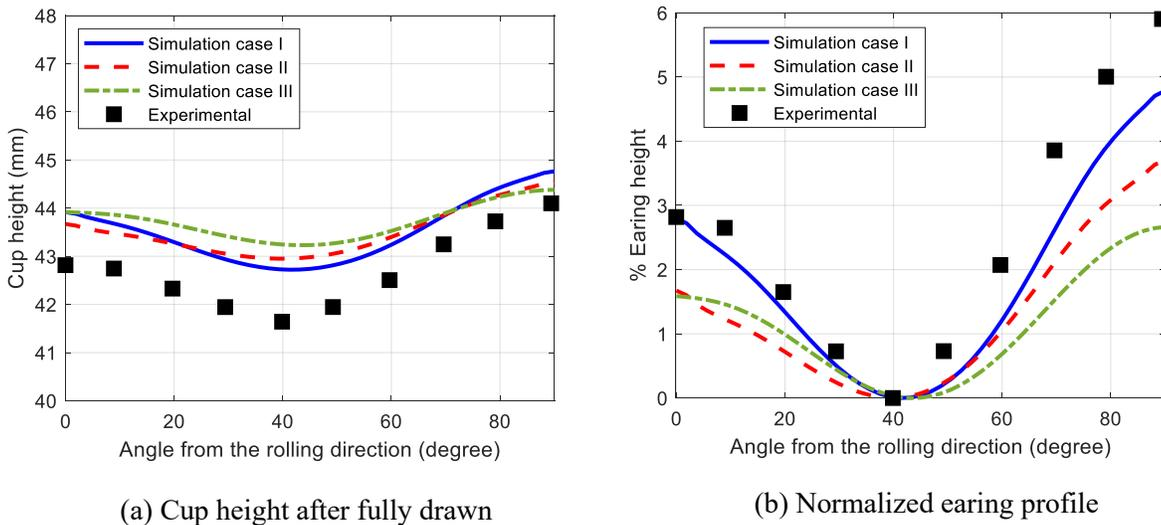

Figure 4 Simulation-predicted earing profile as compared to experimental results
To show how the model prediction correlates to experiments, Figure 4(a) compares three cases of simulated cup height as a function of the angle from the rolling direction along with the experimental data. Case I is obtained by using LS-DYNA® with the anisotropic parameters identified by LS-OPT® as listed in Table 2 (1st row). Case II is also calculated by LS-DYNA® but with the anisotropic parameters taken from the literature, which are also listed in Table 2 (2nd row). As a reference, another simulated profile, which is based on the same model with the same set anisotropic parameters as case II but uses a different numerical implementation [3], is included as case III. To better observe the variation of cup height, Figure 4(b) compares the % earing height of all three cases with the experimental data, where % earing height is calculated by equation (12):
As illustrated by Figures 4(a) and (b), all three simulated cases are able to capture the general features of the overall earing profile. The differences between case II and case III are considered to be due to differences in the details of numerical implementation of the same theoretical model, as well as different element formulations, contact assumptions, etc.. On the other hand, the differences between case I and II are solely caused by different sets of anisotropic parameters being used in the simulations. Case I, which uses the LS-OPT® identified parameters matches the experimental data better in terms of both the cup height values and the overall earing profile. The reason is considered to be the fact that the numerical algorithm used in the material parameter identification process and the cup-drawing analysis are consistent with each other. In case I, the LS-OPT® identification procedure serves as a “training” process that makes the material model “learn” the best set of anisotropic parameters that matches the real material behavior. The numerical consistency between the identification process and simulation process leads to the overall improvement of earing prediction.